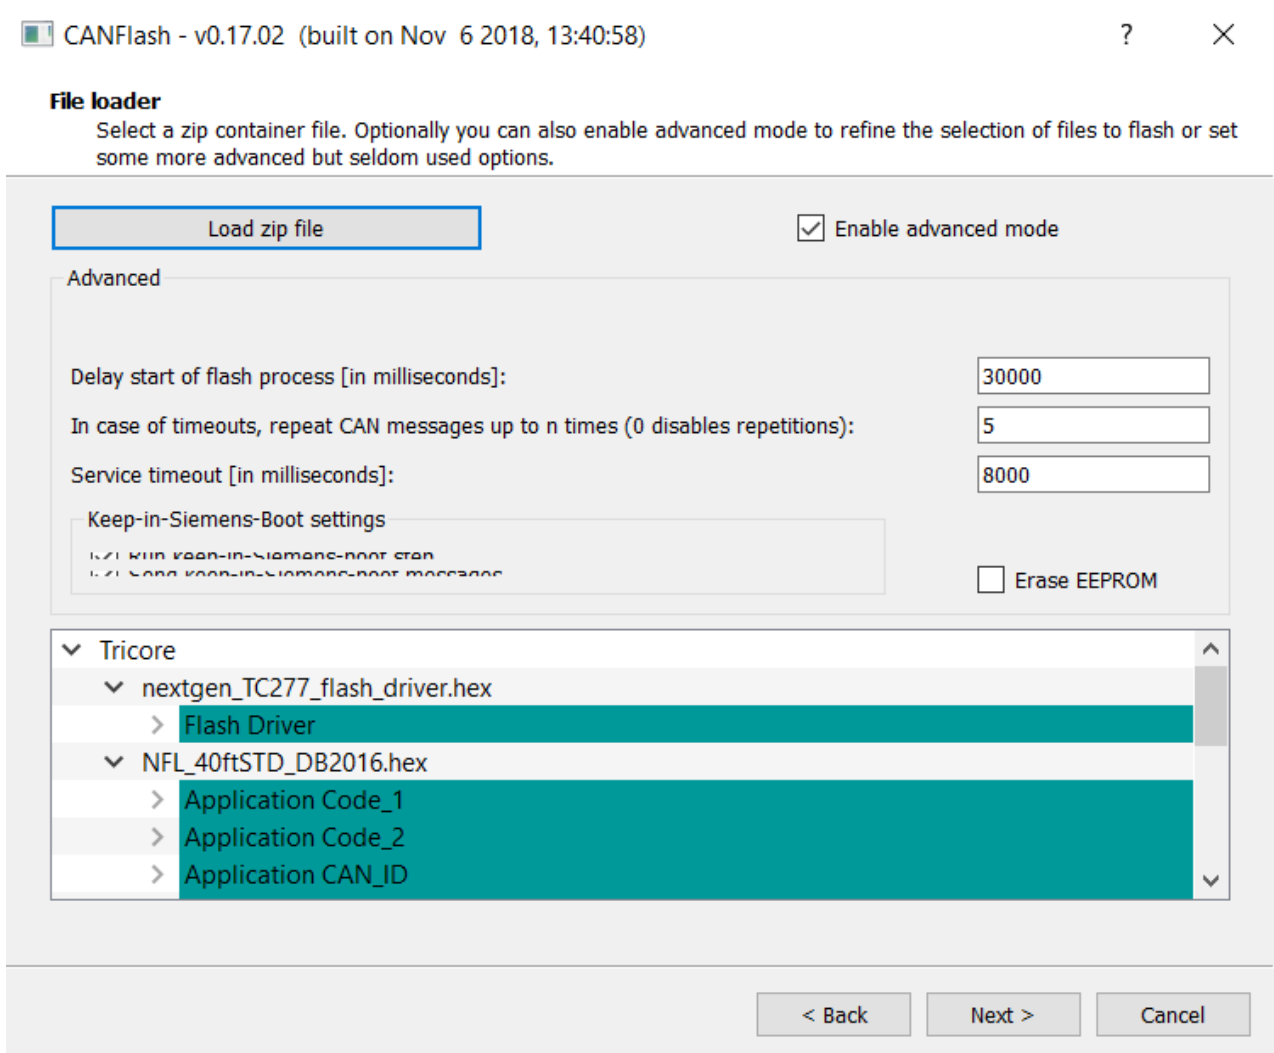

Figure 24: Advanced settings for CANFlash
69. Click the **Enable advanced mode** button. Change the **Delay start of flash process** box to 30000. Change the **repeat CAN messages** box to 5 (see figure 24). Click **Next** when complete.